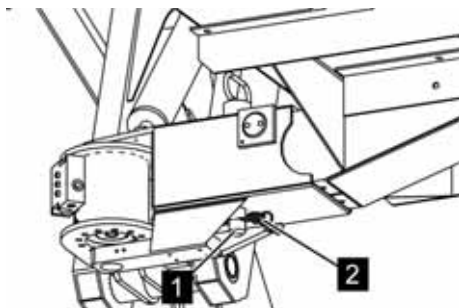

Fig. 83: Pull out the spring cotter pin
4. ➤ Pull the spring cotter pin (Fig. 83/2) out of the fastening bolts (Fig. 83/1).